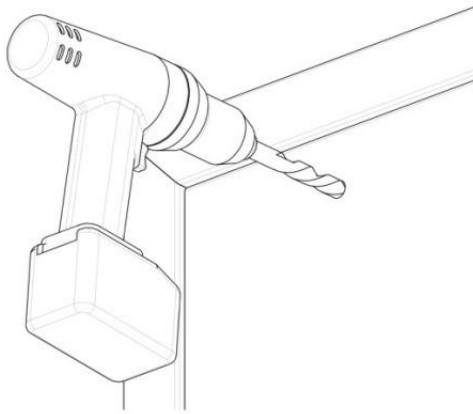

Figure 19. Drilling the Outside Door Holes
7. For a **Solid Wood Door**, DRILL out 3/8" diameter strike mounting hole to 1/2" diameter; DRILL completely through door (see Figure 19, "Drilling the Outside Door Holes").